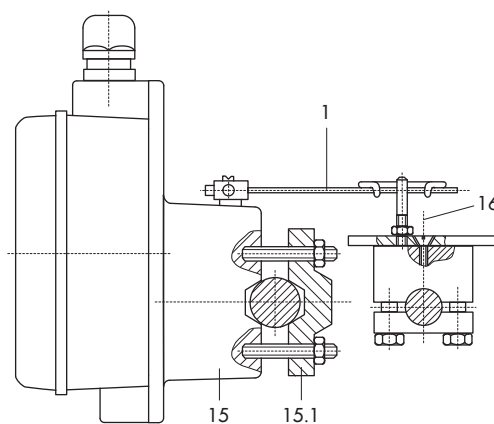

Fig. 12 · Attachment to valves with rod-type yoke
Attachment (Figs. 12 and 13)
The positioners can be attached to actuators with cast yokes (Fig. 3) (e.g. Series 240, 250 and 280) and valves with rod-type yokes (Fig. 12) using an adapter (15). A clamping plate (15.1) is additionally required for valves with rod-type yokes.